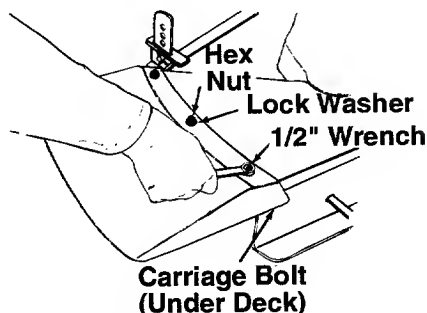

FIGURE 10.—50" Deck
- ← Remove the carriage bolts, hex nuts and lock washers which are attached to the deck next to the chute opening. Place the chute deflector in position as shown in figure 10 or 11. Secure with hardware just removed.